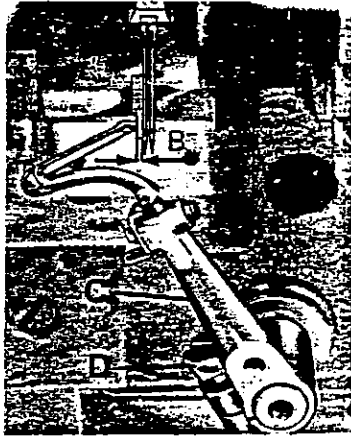

fig. 6
- When the primary looper has completed its stroke to the left and with the needle in its lowest position, the distance between the looper point and the needle should be as indicated in fig. 6.